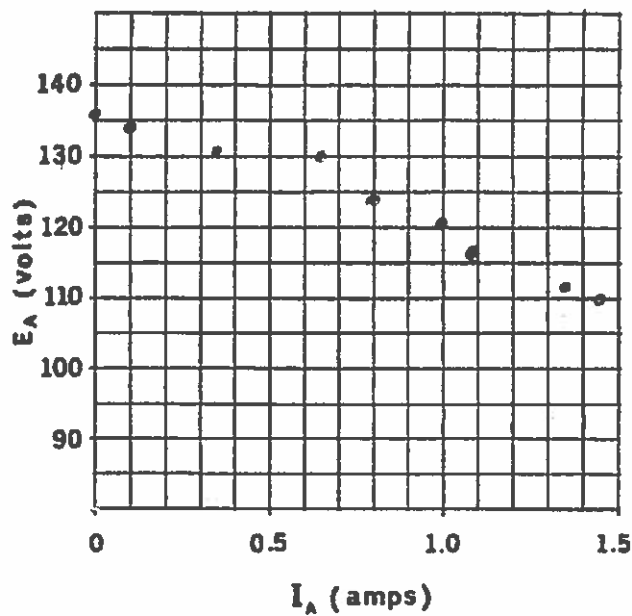

Figure 27-5.
4. Plot the E_A vs I_A regulation curve on the graph of Figure 27-5. Use the data from Table 27-2.